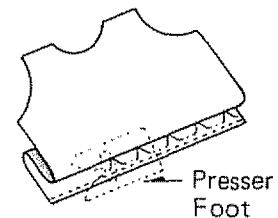

Fig. 3
3. Place garment under presser foot in such a way that narrow zigzag stitches will be sewn on extended edge. The wide zigzag stitch should just catch the fold of the garment. (Fig. 3)
Foot can also be used to make cording for slipcovers etc. Cover a cord with a strip of bias fabric and sew as shown in Fig. 3.